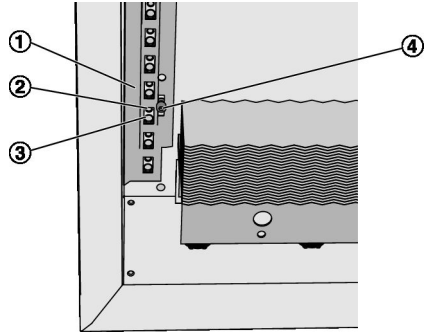

Fig. 11: Adjusting the nozzles on the DID614
- ▶ Loosen the Allen screws (SW4) (Fig. 11/4) of the flat adjustment bar (Fig. 11/1).
- small nozzle open (Fig. 11/2) (DS)
- large nozzle open (Fig. 11/3) (DB)